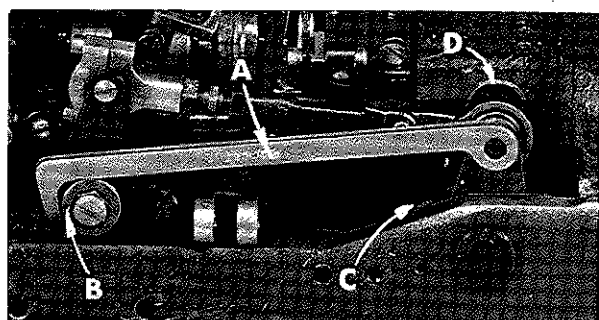

Fig. 7
With the looper at the extreme right end of its travel, check the location of the right looper connecting rod bearing, using gauge No. 21227 DC (A, Fig. 7). Place the hole in gauge over threaded stud and the left inside edge of the gauge should locate against the left side of the looper rocker cone (B). If adjustment is necessary, loosen clamp screw (C), reposition looper drive lever (D) as required and retighten clamp screw.